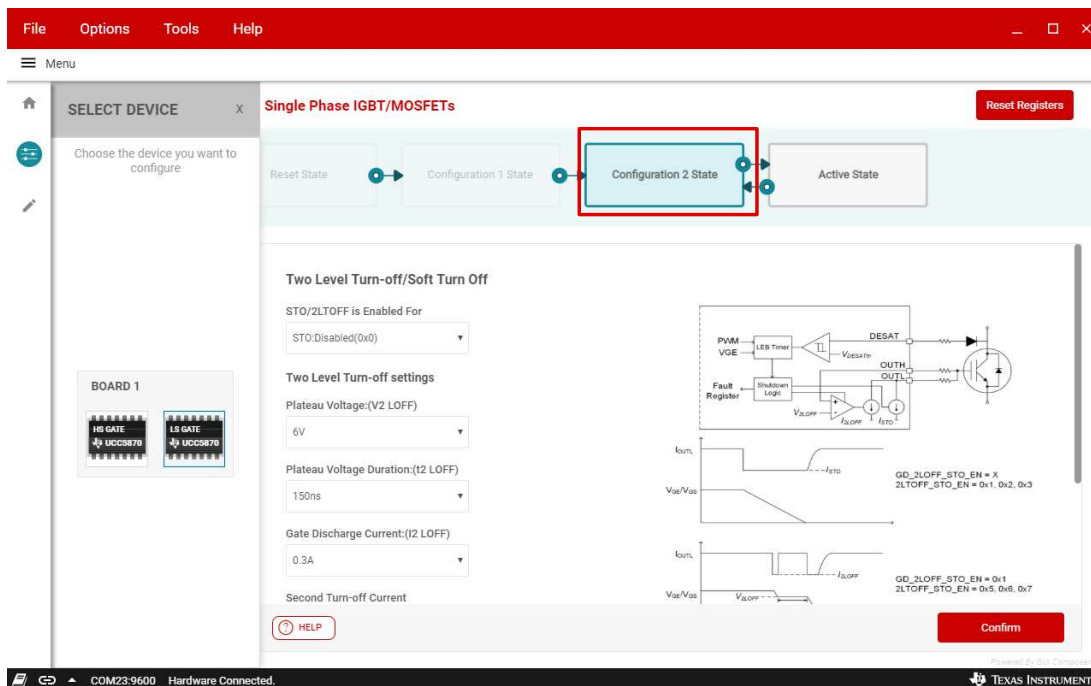

Figure 26. Daisy Chain SPI Mode High Side and Low Side CF2 State
4. Below Figure 26 shows the GUI page of the above step when both high side and low side driver are in configuration 2 state.